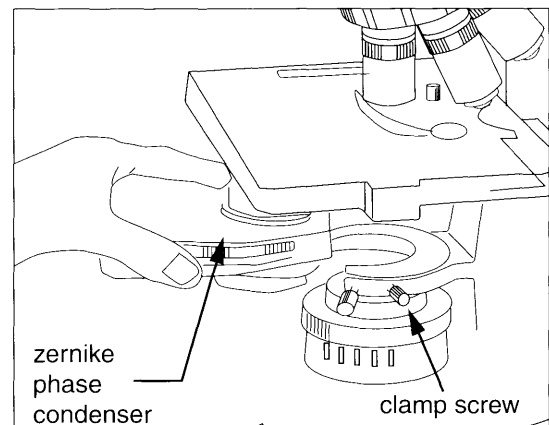

Figure 1
1. Install the phase contrast objectives into the nosepiece and install the Zernike Phase Condenser in place of the standard Abbe Condenser by lowering the condenser rack and loosening the clamp screw shown at right and then sliding out the condenser. (Fig.1)